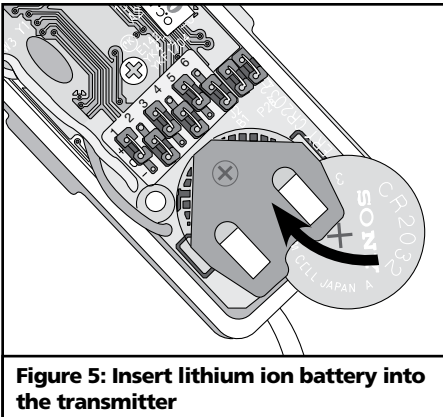

**Figure 3: Connect adapter to receiver**
10. Now plug in the AC adapter to the receiver (Fig. 3) and plug the transformer into a 120 VAC outlet and uncoil antenna wire.